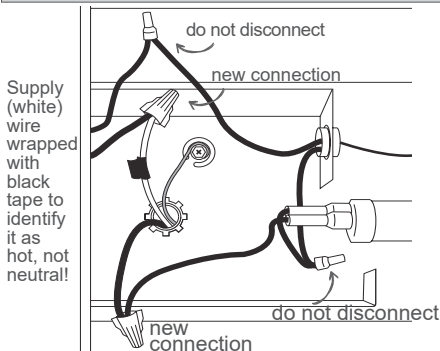

Figure 2
- For 240 volts, or 208 volts with two hot supply wires, both ends connect the same, it doesn't matter which heater wire (Figure 2 or Figure 6).
3. In the wiring compartment of each heater, connect one supply wire to one of the heater wires with a wire connector (not included), it doesn't matter which one (See Figure 2 or 4).
4. Connect the remaining supply wire to the remaining heater wire with a wire connector (not included) (See Figure 2 or 4).